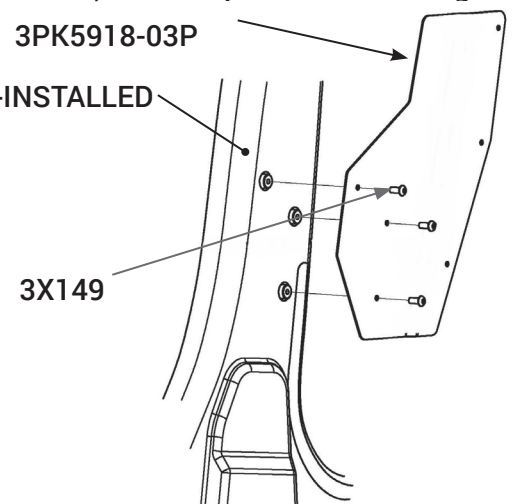

Fig. 3
- B. Use three (3X149) screws to bolt the passenger side panel into place leaving bolts loose until the partition is installed. (See Fig. 3)